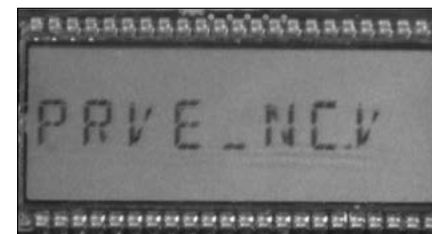

Figure 8 - LCD screen changes to PRVE_NC.V
- Hold the magnet for about five seconds on the word "Swipe" until the display changes to PRVE_NC.V (Figure 8).